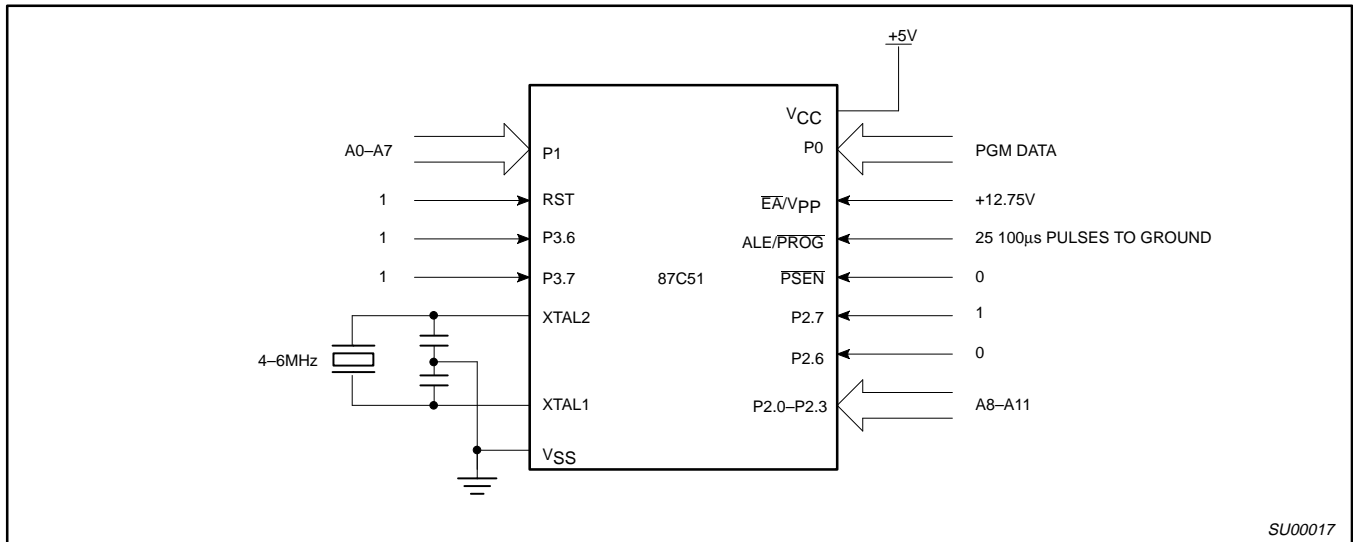
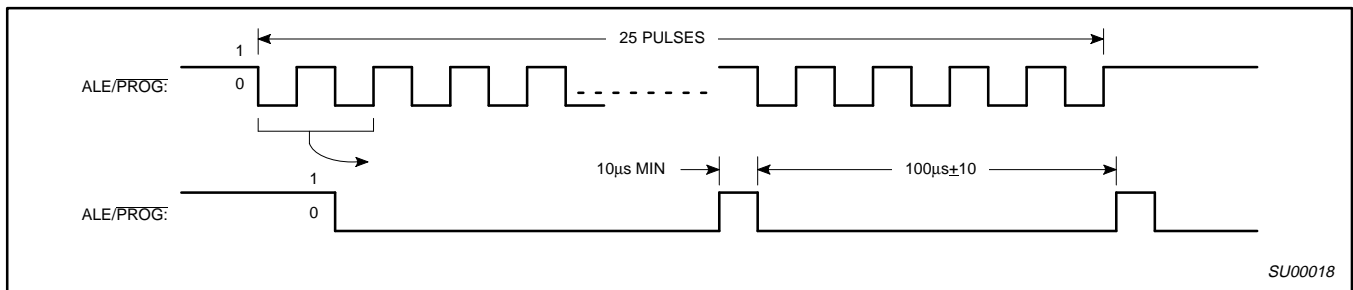
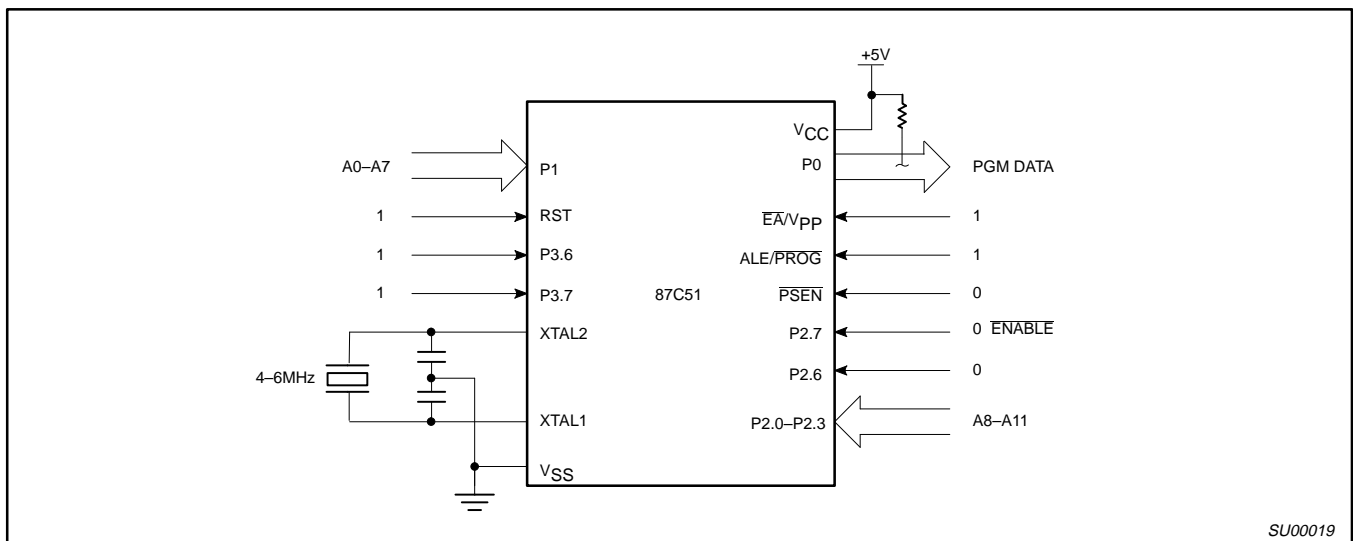

Figure 13. Programming Configuration
Figure 14. PROG Waveform
Figure 15. Program Verification
Table 3 shows the logic levels for reading the signature bytes, and for programming the program memory, the encryption table, and the security bits. The circuit configuration and waveforms for quick-pulse programming are shown in Figures 13 and 14. Figure 15 shows the circuit configuration for normal program memory verification.
The setup for microcontroller quick-pulse programming is shown in Figure 13. Note that the 87C51 is running with a 4 to 6MHz oscillator. The reason the oscillator needs to be running is that the device is executing internal address and program data transfers.
The address of the EPROM location to be programmed is applied to ports 1 and 2, as shown in Figure 13. The code byte to be programmed into that location is applied to port 0. RST, \overline{PSEN} and pins of ports 2 and 3 specified in Table 3 are held at the 'Program Code Data' levels indicated in Table 3. The ALE/PROG is pulsed low 25 times as shown in Figure 14.
If security bit 2 has not been programmed, the on-chip program memory can be read out for program verification. The address of the program memory locations to be read is applied to ports 1 and 2 as shown in Figure 15. The other pins are held at the 'Verify Code Data' levels indicated in Table 3. The contents of the address location will be emitted on port 0. External pull-ups are required on port 0 for this operation.
* FOR PROGRAMMING VERIFICATION SEE FIGURE 13.
* FOR VERIFICATION CONDITIONS SEE FIGURE 15.